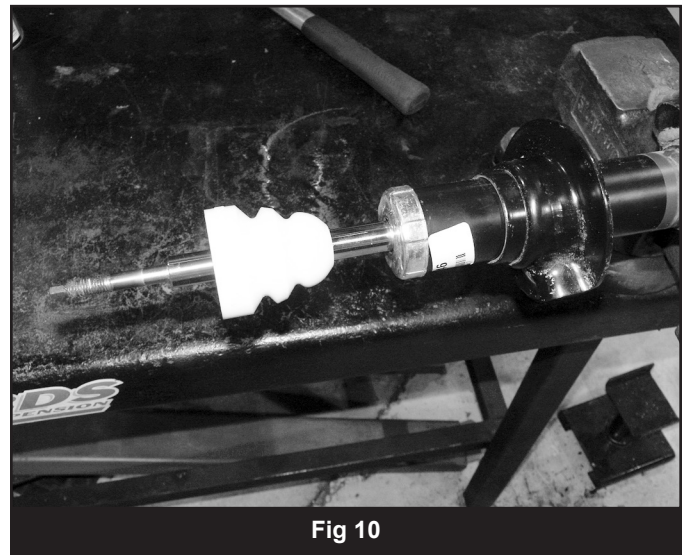

Fig 6
14. Working on the upper strut mount, remove the coil isolator from the mount and set aside. Remove the plastic strut cover and set aside as well (Fig 6).